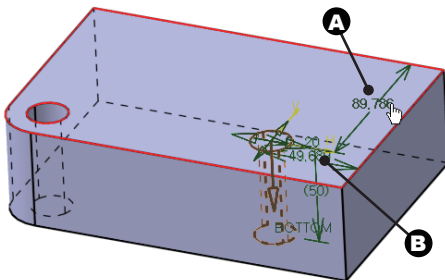

Fig 6-20 Modifying the Dimensions
2. Double click the dimension **A** and **B** shown in Fig 6-20 and modify each value to 40mm.